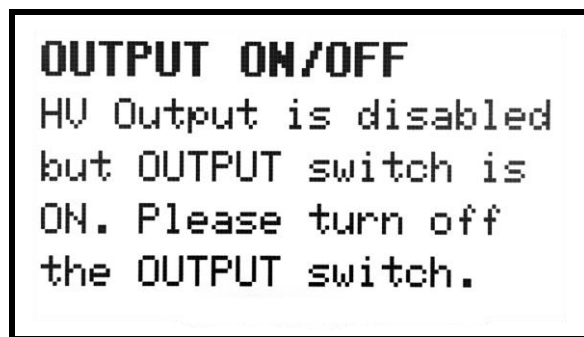

Figure 19. Display prompting user to turn HV Output OFF
- ◆ After switching the AC power ON, the HV output is not turned ON even if the HV OUTPUT push-button is in the ON position. The display shows a prompt to turn the OUTPUT switch OFF (see Figure 19).